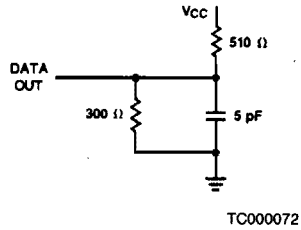

Figure 2. Output Load for t_{HZ} , t_{LZ} , t_{OH} , t_{WZ}
7. Transition is measured ±500 mV from steady state voltage with specified loading in Figure 2. These parameters are sampled and not 100% tested.